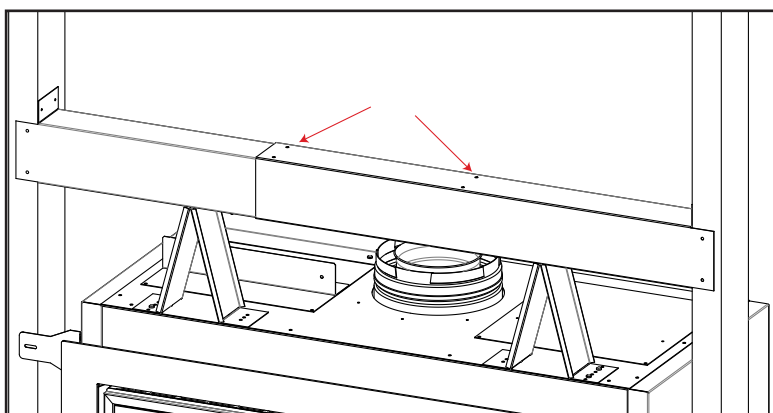

**Figure 29: Steel Stud Assembly**
- Take the two steel stud pieces and slid them into each other. The flanges of each piece should be at the end of the assembly, as well as facing upwards as shown in Figure 29.